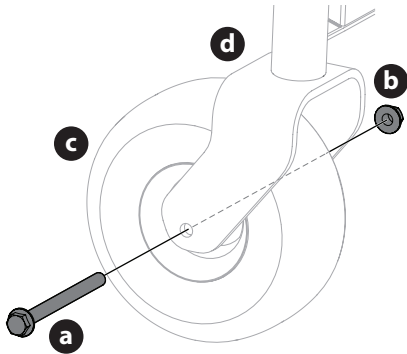

Figure 55
1. Remove the hex screw (a) and flange lock nut (b) that secures the front wheel (c) to the yoke assembly (d) (Figure 55).
2. To re-install or replace the front tire, reverse Step 1. Tighten the hardware to 75-90 ft-lbs (101-122 N-m) (Figure 55).